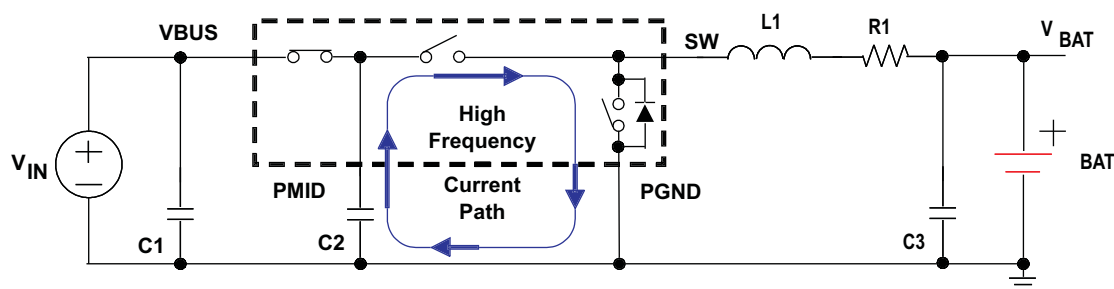
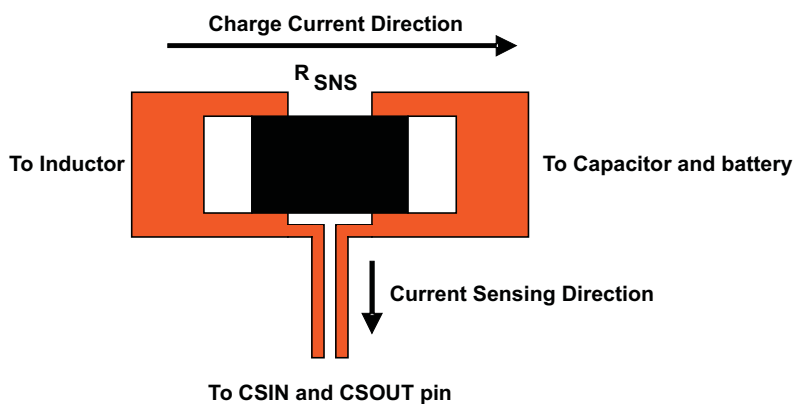

Figure 39. High Frequency Current Path
Figure 40. Sensing Resistor PCB Layout
4. Measured efficiency and total power loss with different inductors are shown in Figure 38. SW node and inductor current waveform are shown in Figure 39.
- To obtain optimal performance, the power input capacitors, connected from input to PGND, should be placed as close as possible to the pin. The output inductor should be placed close to the IC and the output capacitor connected between the inductor and PGND of the IC. The intent is to minimize the current path loop area from the SW pin through the LC filter and back to the PGND pin. To prevent high frequency oscillation problems, proper layout to minimize high frequency current path loop is critical. (See Figure 39.) The sense resistor should be adjacent to the junction of the inductor and output capacitor. Route the sense leads connected across the RSNS back to the IC, close to each other (minimize loop area) or on top of each other on adjacent layers (do not route the sense leads through a high-current path). (See Figure 40.)